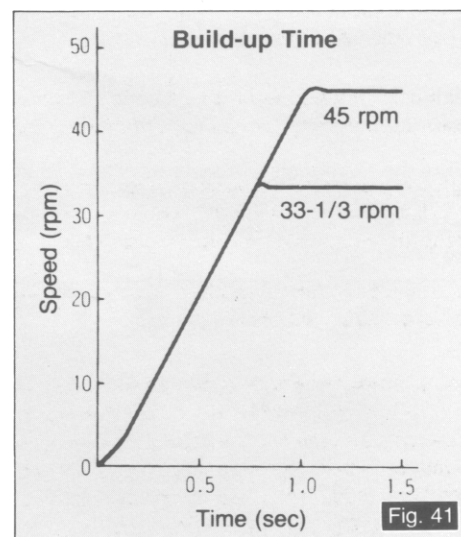

Fig. 41
- **High torque motor delivering 1.5 kg·cm makes it possible to reach 33-1/3 r.p.m. from standstill within 0.7 sec. (1/4 rotation) and to effect instantaneous speed change.** (Fig. 41).